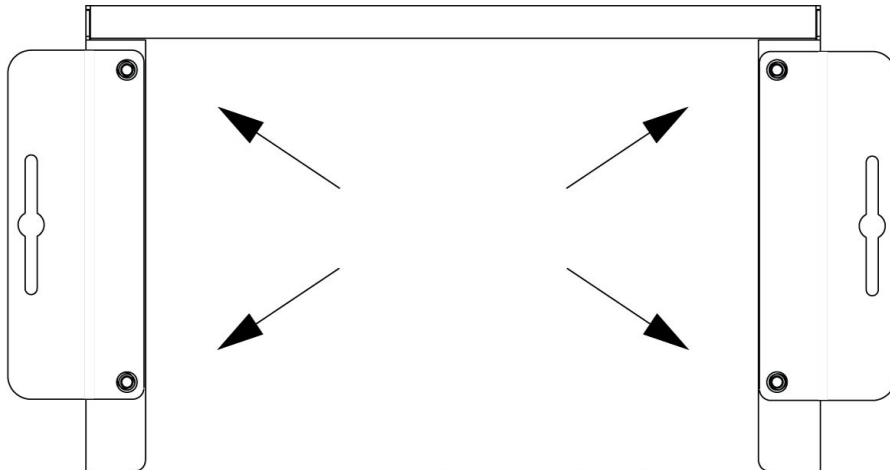

Figure 2-1. Installing Mounting Wings
1. Remove the four screws from the bottom of the unit and use them to attach the mounting wings (not included in shipment - SVSi part number N9101). See Figure 2-1.